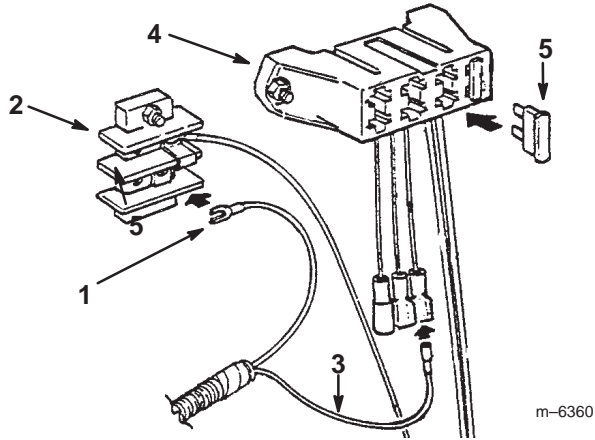

Figure 13
2. Connect the ring or fork terminal on the black wire to the ground terminal block (Fig. 13).
4. Insert the 30-amp fuse into the fuse block in the position where you connected the red wire (Fig. 13).